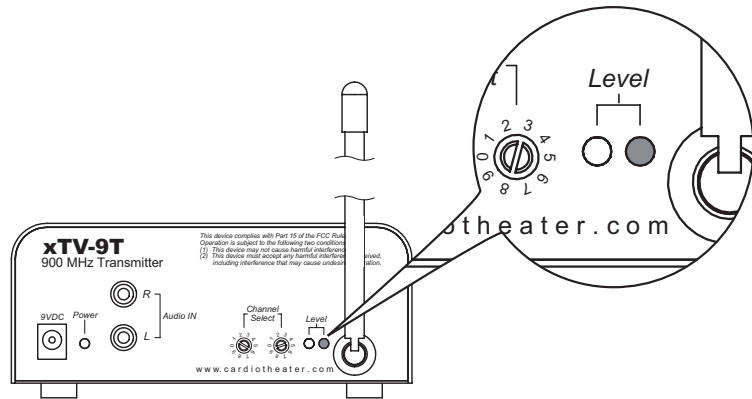

Figure 2: Watch the Level lights to adjust volume appropriately
- If you connected the RCA audio cable to a fixed audio output connector, continue to step 12. Otherwise, set the sound level so users receive a consistent sound level. You will need to look at the back of the transmitter to perform this step. See Figure 2.